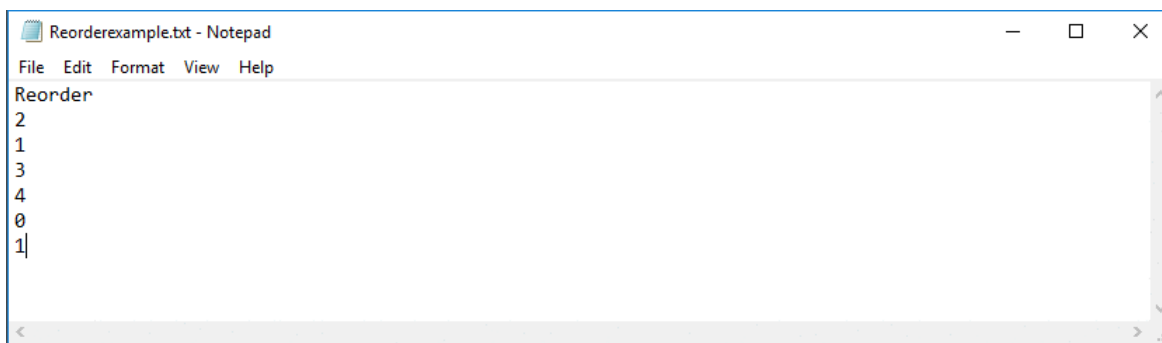

Figure 3-13. Reorder Example
The names Bob, Joe, Sue, Matt, and Sam in Figure 3-11 and Figure 3-12 do not actually appear in the GUI but are for explanation purposes used in Figure 3-13. In the GUI only numbers are used.
The *LUT Editor* panel is shown in Figure 3-12 where the column labeled *SNO* (for example, *Sequence Number*) represents the pattern display slot numbers according to the order set (after clicking *Update LUT*) in the *Pattern Design* tab as shown in Figure 3-11. The user can then reorder those patterns by either manually entering the pattern number of the choice into a row in the *LUT entry* column or loading a text file beginning with the word *Reorder* followed by the desired numerical pattern slots as shown in Figure 3-13.
13. Browse to wherever the text file was saved, and open the file in a text editor program as shown in Figure 3-13.